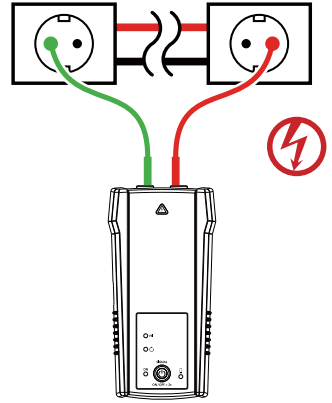

Figure 3.1a: Proper connection with separate neutral
2. Using provided test leads accessories, connect the red test lead to the wire being traced, Energized or De-energized. For receptacles, make sure to connect the test lead to the line/phase wire. For Energized systems the signal will ONLY be transmitted between the load-side to which the Transmitter is connected and the source of power (see Figure 3.1a).